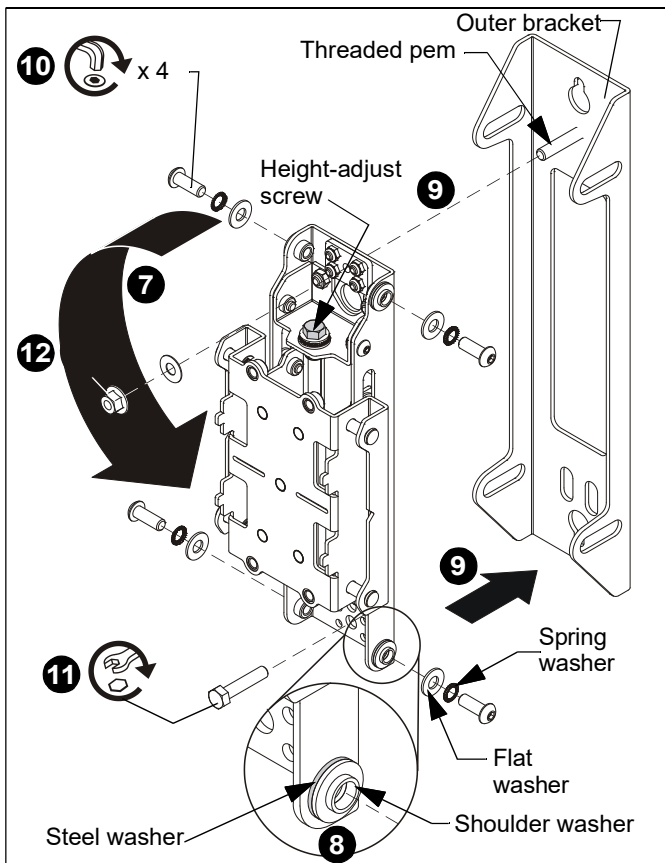

Figure 6
7. Rotate wall assembly so that height-adjust screw is at top of wall upright assembly. (See Figure 6)
12. Replace and tighten flanged nut and washer onto threaded pem at top of wall upright. (See Figure 6)